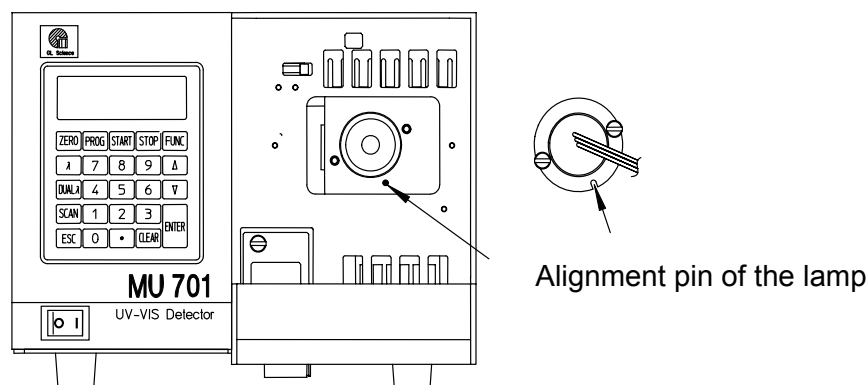

Fig.4-6: Alignment of the lamp
10. Position the new lamp, so that the cut-out on the metal flange of the lamp is inserted into the alignment pin (referring Fig.4-6).